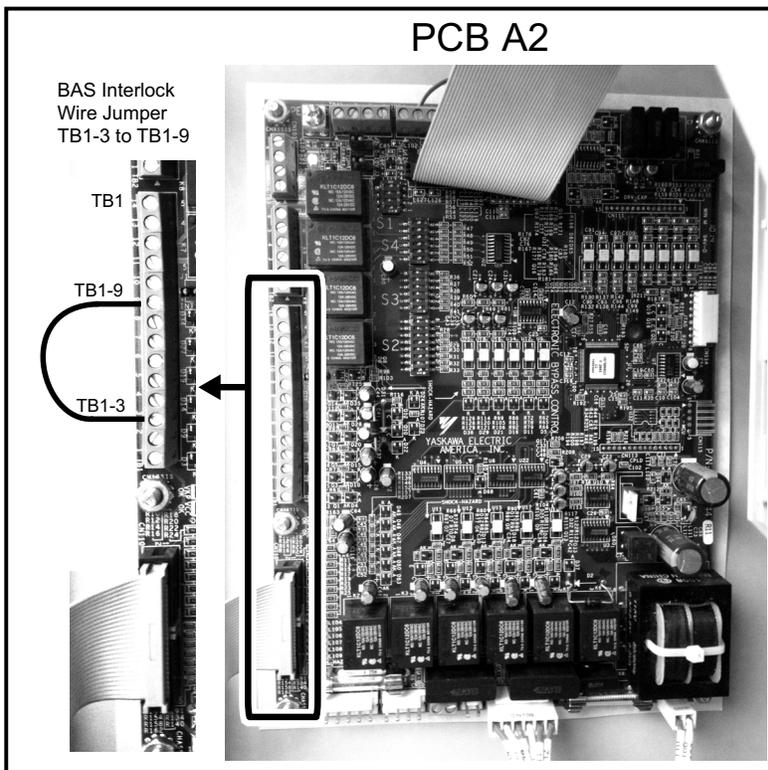

Figure 7 Option 2: Damper/BAS Interlock Wire Jumper
2. Option 2: Install a jumper between TB1-3 and TB1-9 on PCB A2 according to Figure 7. This method should be used if a BAS Interlock Circuit will be added later in the installation.